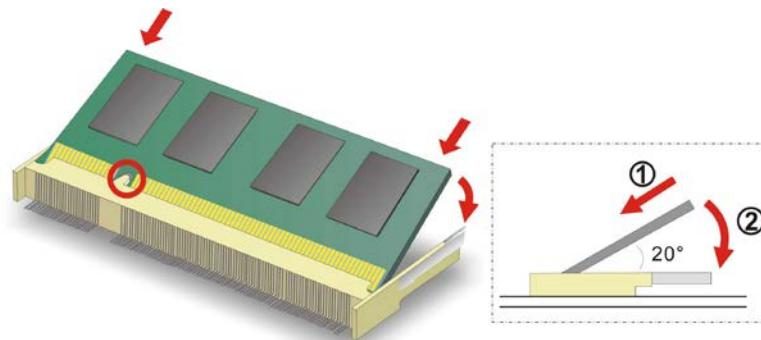

Figure 4-1: SO-DIMM Installation
To install an SO-DIMM, please follow the steps below and refer to **Figure 4-1**.
Step 3: **Insert the SO-DIMM.** Push the memory in at a 20° angle. (See **Figure 4-1**)
Step 4: **Seat the SO-DIMM.** Gently push downwards and the arms clip into place. (See **Figure 4-1**)